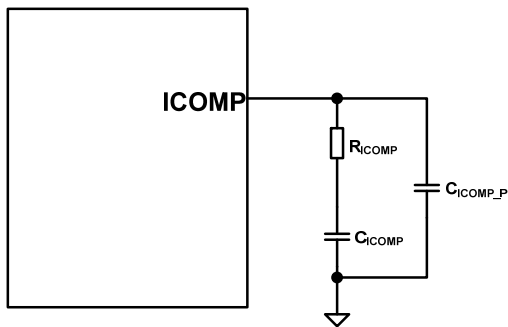

Figure 6: Compensation Network on ICOMP
ICOMP is the compensation node for the LED current control loop. Connect a capacitor in series with a resistor on ICOMP or an R-C-C network (see Figure 6). The zero composed of  $R_{ICOMP}$  and  $C_{ICOMP}$  is recommended to cancel the pole formed by the LED output. See Equation (10):